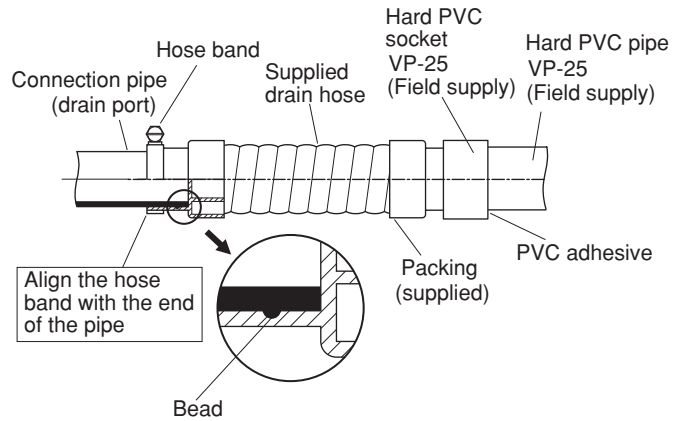

Fig. 3-6
The PVC pipe must be purchased separately. The unit's transparent drain port allows you to check drainage. (Fig. 3-6)
- **Insert the drain pipe until it contacts the socket as shown in Fig. 3-6, then secure it tightly with the hose band.**
- **Align the hose bands with the end of the hose. Tighten the hose band firmly. Make sure that the bead is not covered by the hose band. (Fig. 3-6)**
Tighten the hose clamps so their locking nuts face upward. (Fig. 3-6)